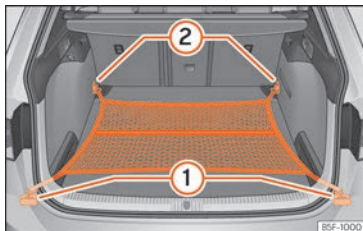

Fig. 189 In the boot: net bag hooked up at floor level (LEON ST model).
- As applicable, lift the front fastening rings »» Fig. 189 ②.
- Secure the net hooks to the fastening rings ② »» ⚠. The bag zip should be facing upwards.
- Secure the net hooks to the fastening rings ①.